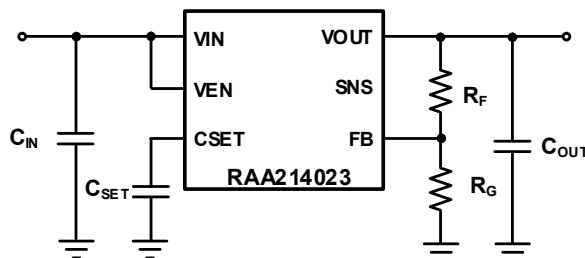

Figure 125. RAA214023 Simplified Application Schematic
The RAA214023 output voltage (V_{OUT}) can be programmed down to 0.8V and up to 5.5V-V_{DO} using the feedback (FB) resistors, R_F and R_G, as shown in Figure 125.